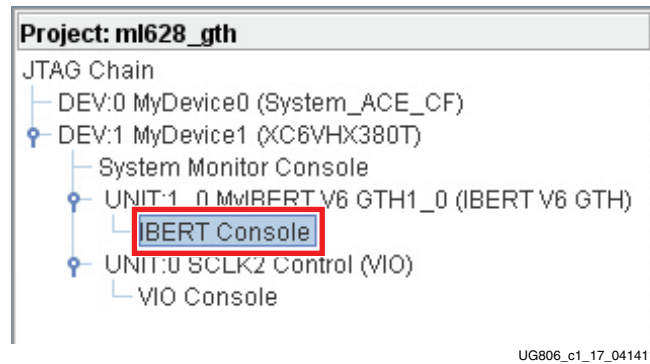

Figure 1-33: Project Panel - IBERT Console (GTX)
3. In the project panel, double-click **IBERT Console** (Figure 1-33).